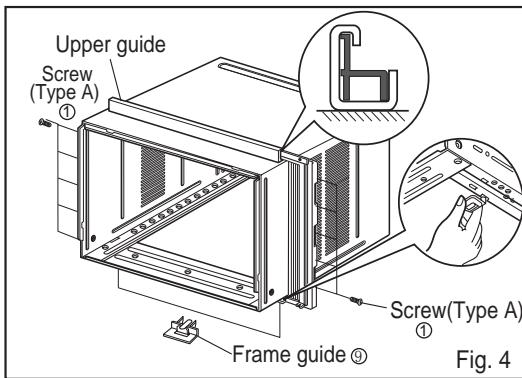

Fig. 4
4. Insert the Frame guides into the bottom of the cabinet. (Fig.4)